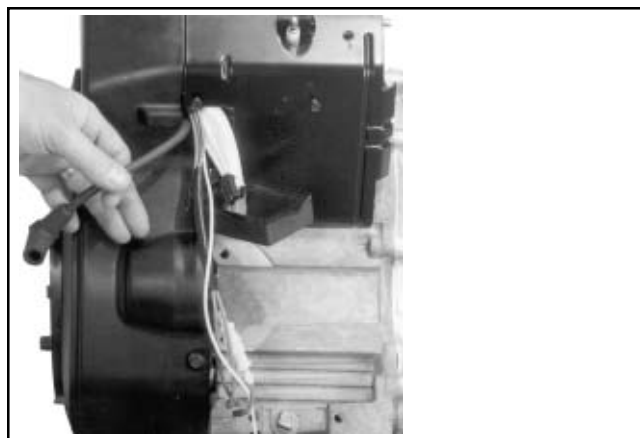

Figure 11-62. Routing Wiring Harness and Leads.
3. Position the outer baffles and loosely start the mounting screws. The two M6 screws go into the back of the cylinders. The short M5 screws go into the lower holes closest to the blower housing. The short screw on the oil filter side is also used to mount the wire harness clip. Be sure any wire harnesses or leads are routed out through the proper offsets or notches, so they will not be pinched between the blower housing and baffles. See Figure 11-62.